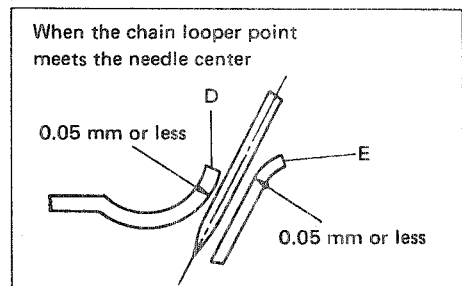

Fig. 24
(2) Needle guard for chain needle (Fig. 24)
- a) The needle in the lowest position must lightly touch both needle guards (D) and (E).